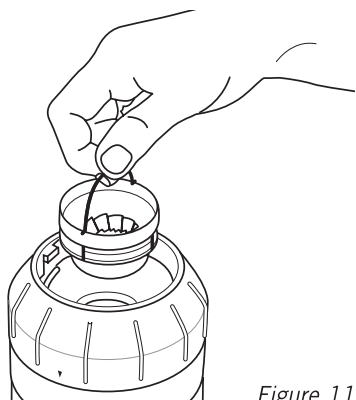

Figure 11
4. Lift out the top burr from the grind adjustment collar using the handle, see Figure 11. Clean using the burr cleaning brush.